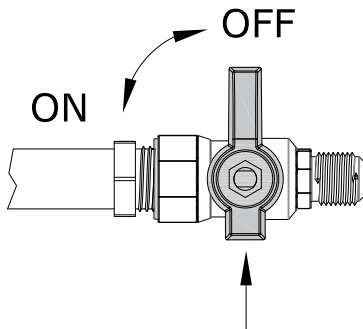

Figure 7.14 - Turn Off Gas
1. First locate the main shut-off valve upstream of the appliance connector and close the valve (Figure 7.14). Next, disconnect the electrical power to the fireplace.